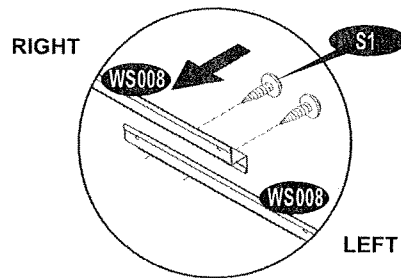

Fig. 5
10. Join the two wall middle support back (WS008) with (S1) screws. See fig. 5.